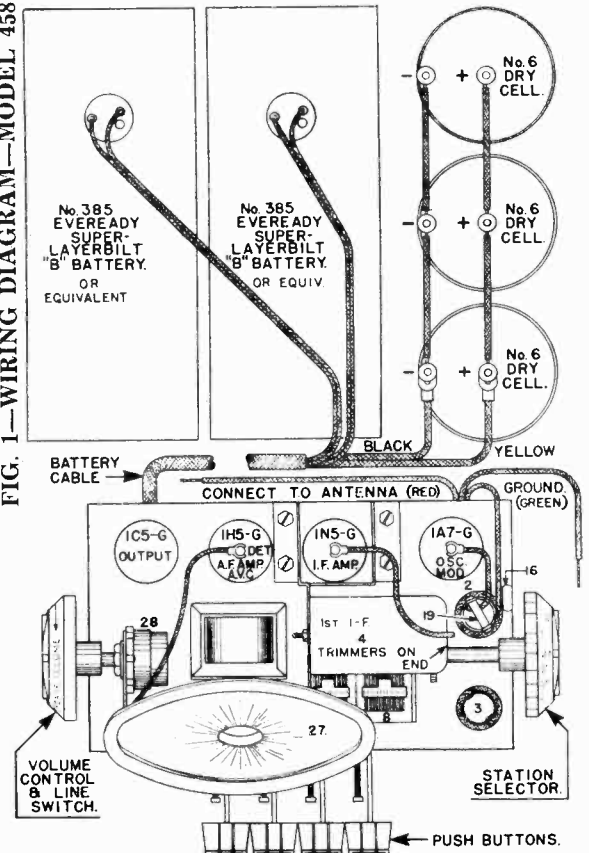

Fig. 2—Top View 458
- (e) Adjust both trimmers located on the 1st I-F transformer (right end) for maximum output. (Fig. 2).